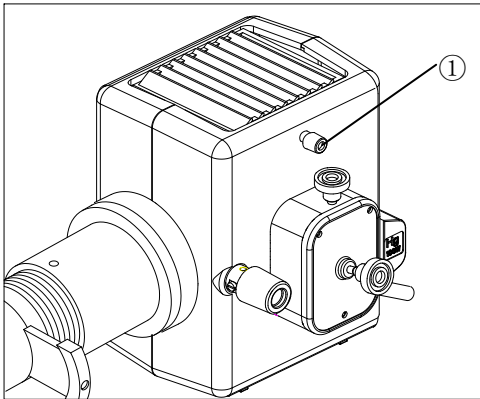
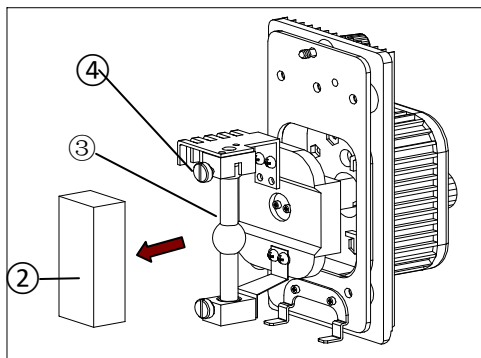

Fig.2
Fig.3
(Fig.2 and Fig.3)
1. Loosen the burner socket clamping screw ①, and remove the burner socket. (fig.3)
2. After removing the foam backstop②, Securely attach the + pole of the specified mercury burner③ to the lower mount and the - pole to the upper mount, then tighten the socket clamping screws④.
3. Close the burner socket with burner④ into the original position and tighten the socket clamping screw①.